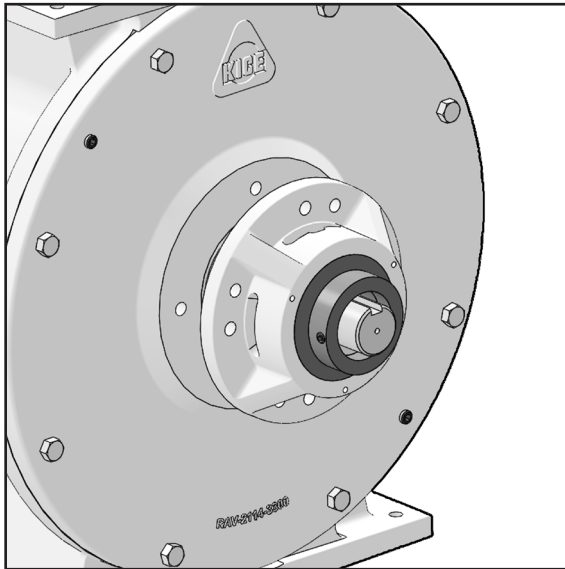

FIGURE 28
23. Slide cartridge gently by hand as far as possible onto rotor shaft (Figure 28).